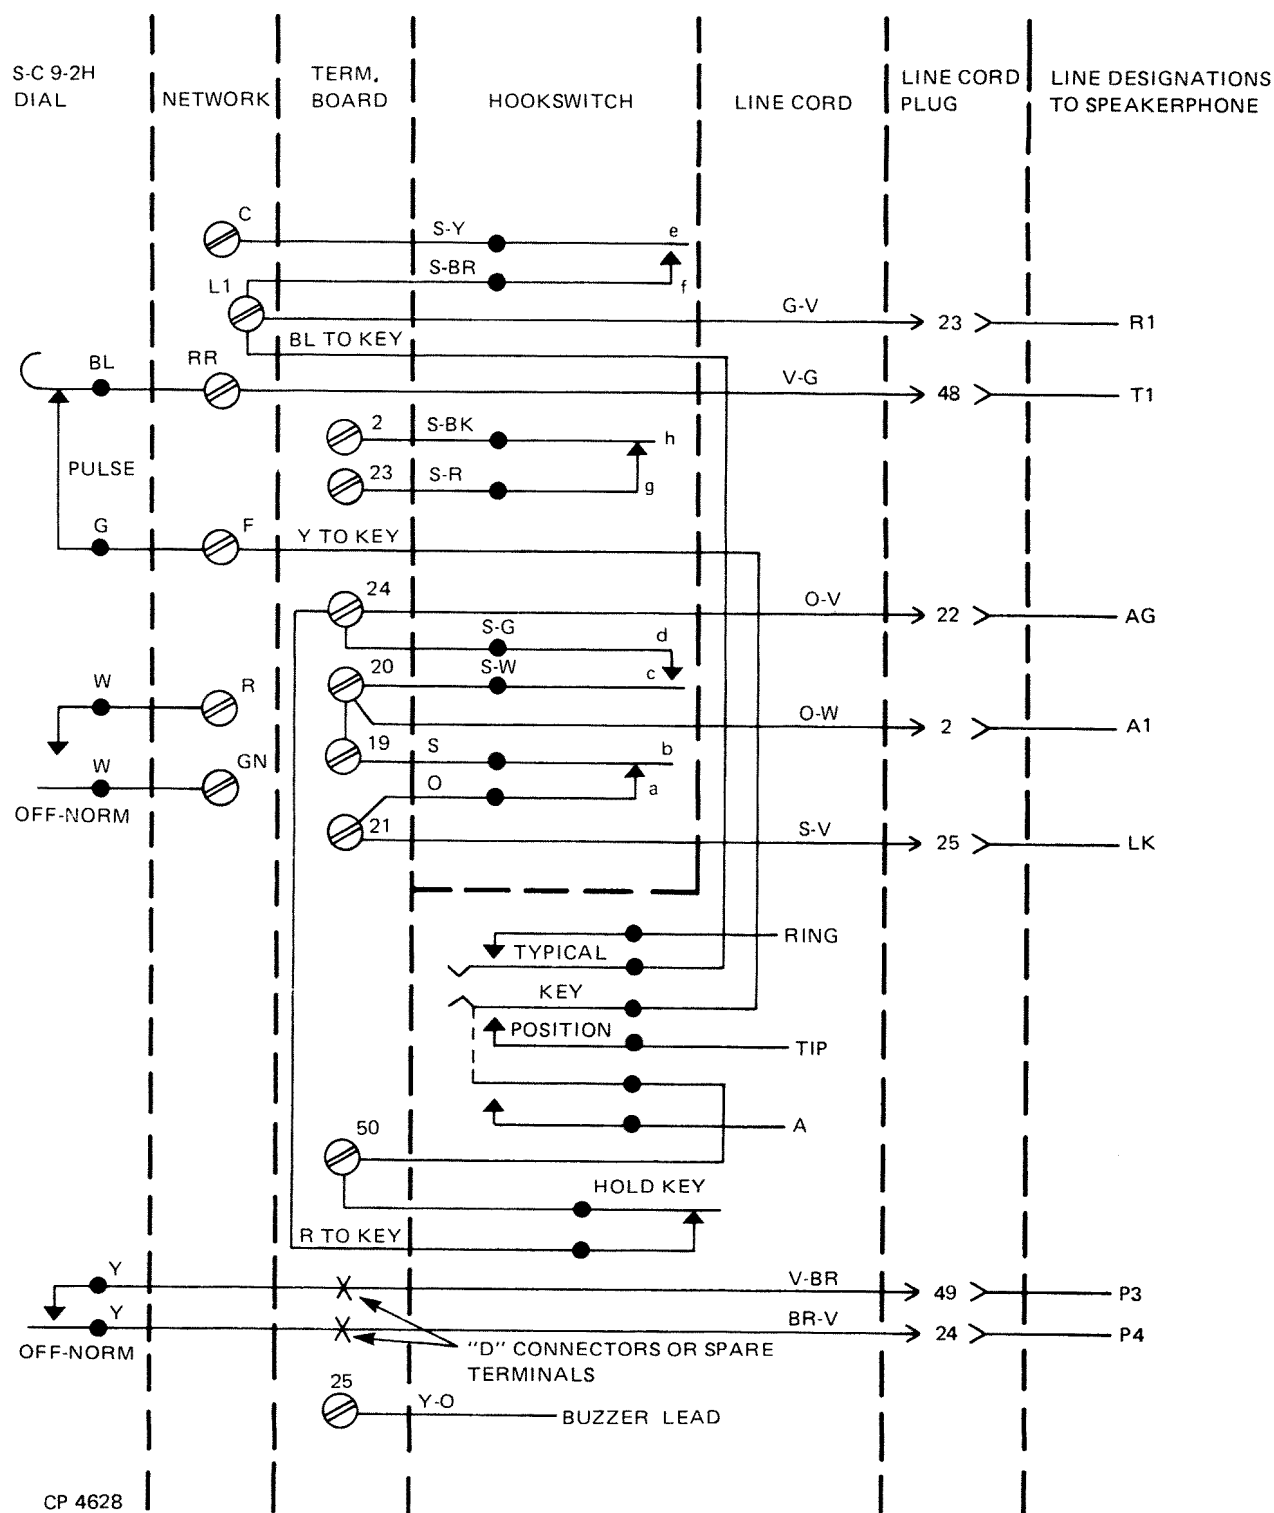

Figure 10. Speakerphone Connections for S-C 1810 Series, Wall Telephones
- Connect dial leads as shown in table 2 for rotary-dial, or table 3 for pushbutton-dial. Figures 10 and 11 provide a wiring diagram of dial lead connections.
e. Connect telephone to speakerphone as shown in table 4 (rotary-dial) or table 5 (pushbutton-dial). Figures 10 and 11 provide a wiring diagram of telephone-to-speakerphone connections.